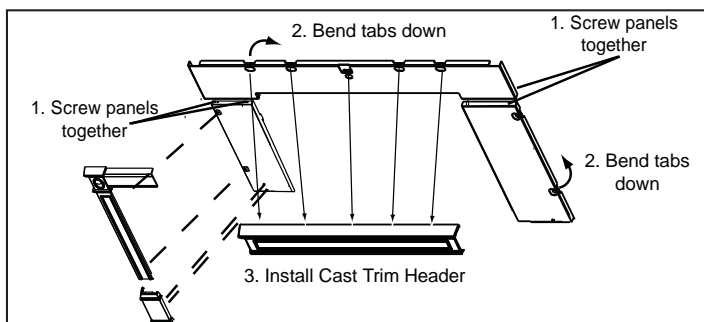

Figure 20.1
4. Now bend the tabs down toward the backside of the panel set, 5 on top and 2 on each leg. Leave the panel set face down. **Figure 20.1**